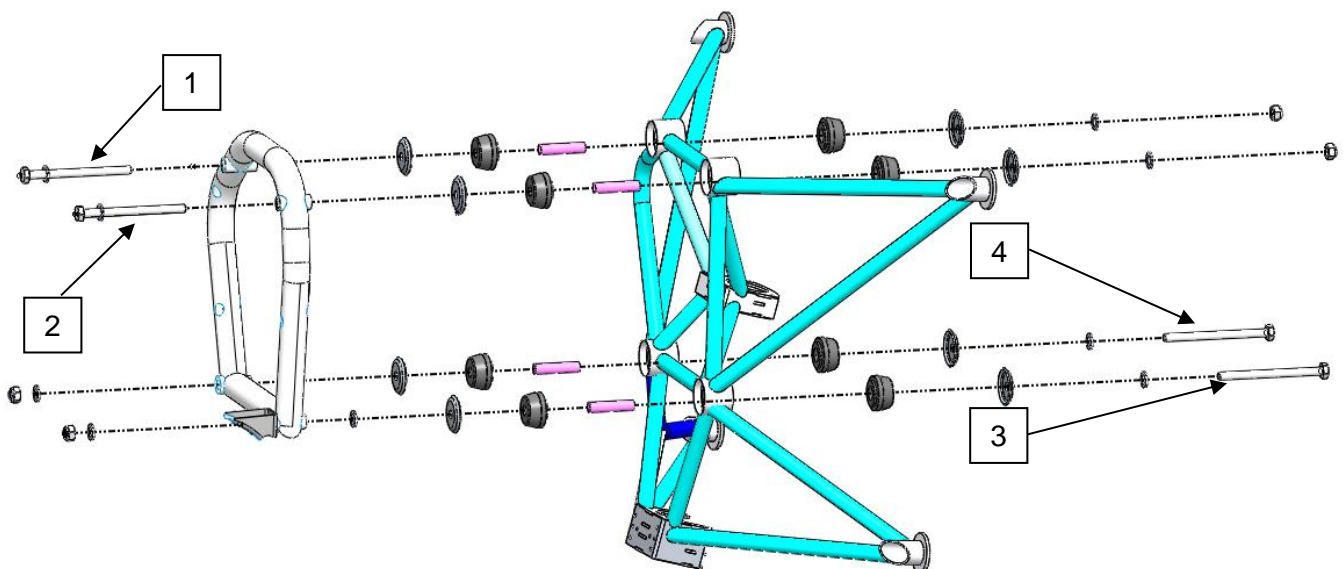

Figure 10: Bolt replacement sequence
Step 4: Once the engine is supported, the bolts can be replaced *one by one*. Refer to Figure 10 and replace the bolts in order. Remove bolt 1 and install the new replacement bolt. Torque the bolt to 38 Nm. Once bolt 1 has been replaced and torqued to 38 Nm, replace bolt 2. Repeat this process until all 4 bolts have been replaced. All bolts should be torqued to 38 Nm. Ensure all washers, rubber stoppers and spacers are installed in the correct positions when replacing the bolts, as seen in Figure 10. The muffler of the Sling 4 TSi does not need to be lowered in order to replace the M 10 bolts shown in Figure 10.